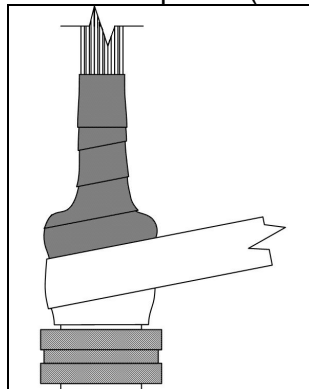

Figure 3
- 3.4.3** After the first full wrap is complete, continue wrapping with a 50% overlap over the top of the StretchSeal™ Tape. Use the line in the middle of Self-Fusing Silicone Tape as a guide and remove the release film as required. (see figure 3)